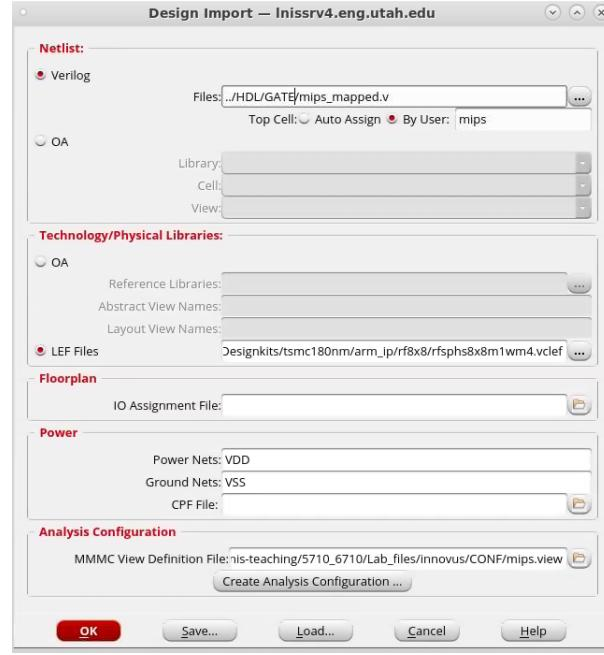

Figure 3: Design import window.
2. Click on the *Load...* button, as shown in Fig 3 and load the *CONF/mips.globals* file. After this step, some settings should be applied to the design import window. The loaded file includes some configuration file for the TSMC 180 nm process. In particular, it contains the information and paths to the .lib and .lef files from the TSMC library required by the P&R tool. It also contains the path to your synopsys .sdc file so you will not need to add it yourself in the configuration step.
4. Next, fill the *Power Nets* and *Ground Nets* fields by *VDD* and *VSS* respectively, as in Fig. 3.